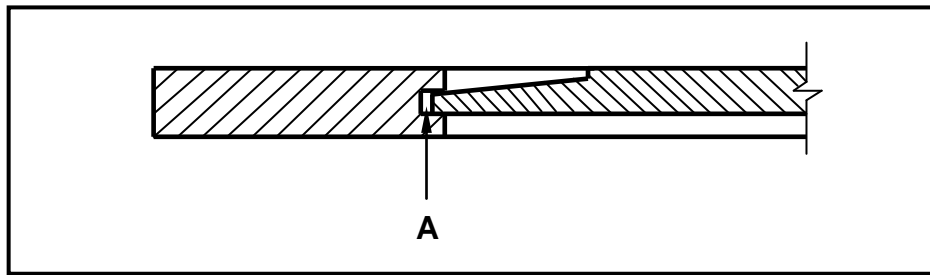

FIGURE 6.8
- 6.8 Explain the purpose of opening **A** in FIGURE 6.8 below.